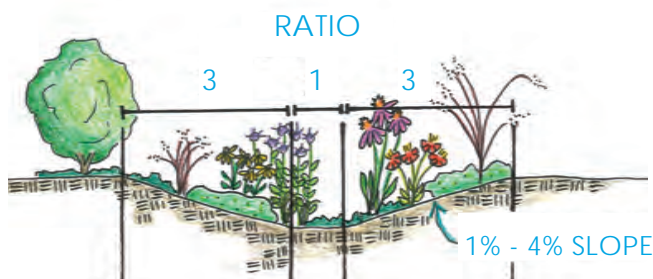

Figure 1. Profile of vegetated swale.
**STEP 2: Dig.** Dig out the shape of the swale. The deepest part of the swale should be about 3' deep. The width of the swale will depend on how much space you have on your site. A swale can be any size or length, but most are shaped like a trapezoid with the sides being three times wider than the width of the base. The slope of the sides should be between 1% and 4% (Figure 1).